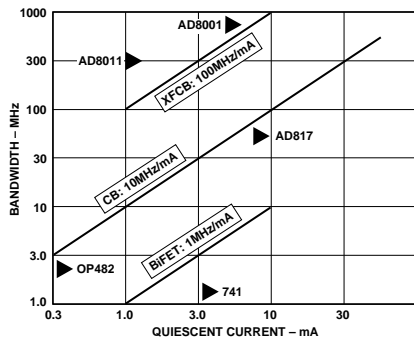

Figure 10. Bandwidth vs. quiescent supply current for IC op amps using various processing technologies.
Figure 10 shows the reference slopes depicting the typical relationship between bandwidth and quiescent current for Analog Devices BiFET, complementary-bipolar (CB) and eXtra-fast complementary-bipolar (XFCB) processes, with representative product types. Note that the AD8011 is capable of 300-MHz bandwidth, while drawing a quiescent current of 1.0 mA maximum from a single +5-V supply (and it generates only 2 nV/ $\sqrt{\text{Hz}}$ of noise at 10 kHz).